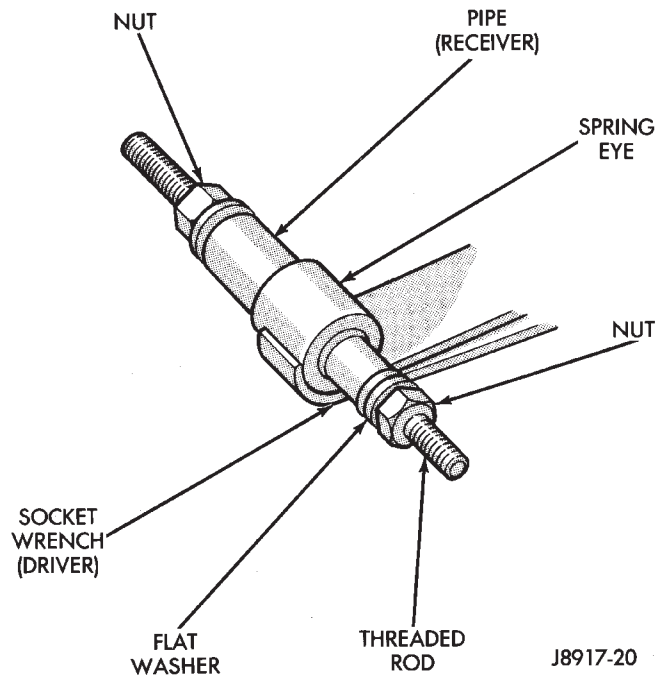

Fig. 4 Spring Eye Bushing Removal
(1) Assemble tools shown (Fig. 4). Tighten the nut located at the socket wrench end of the threaded rod until the bushing is forced out.